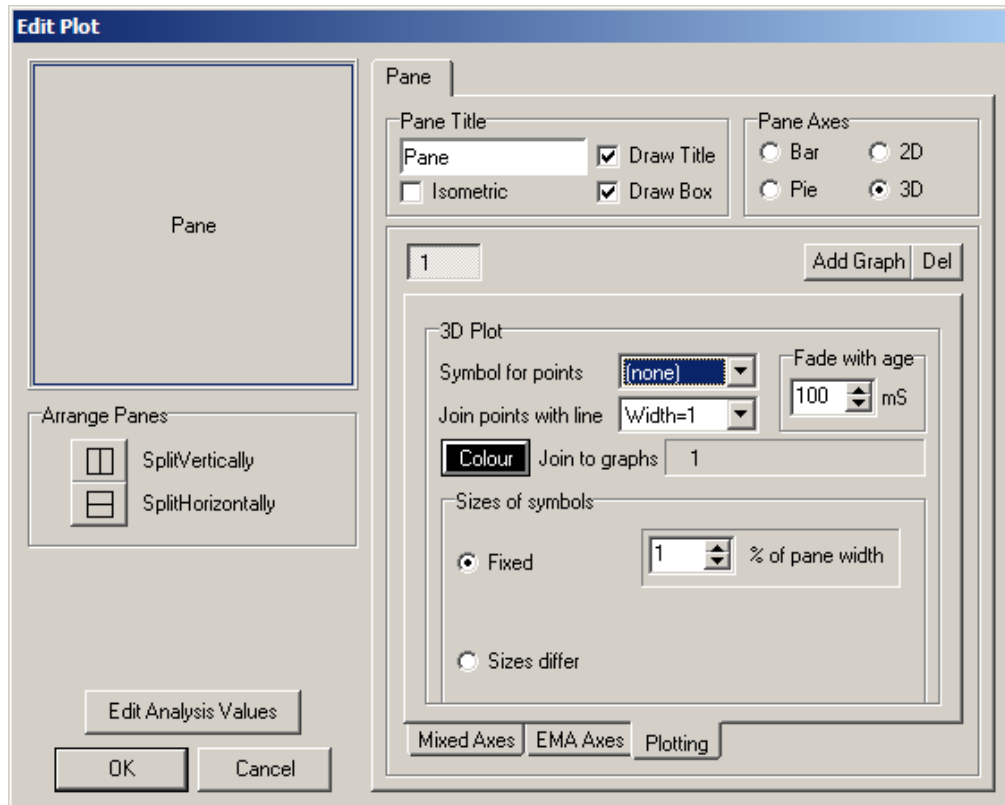

Figure 9 Edit Plot Dialogue showing plotting tab with 100ms 'fade with age' selected
4. Select the 'Plotting' tab and set the 'Fade with age' option to (see Figure 9)